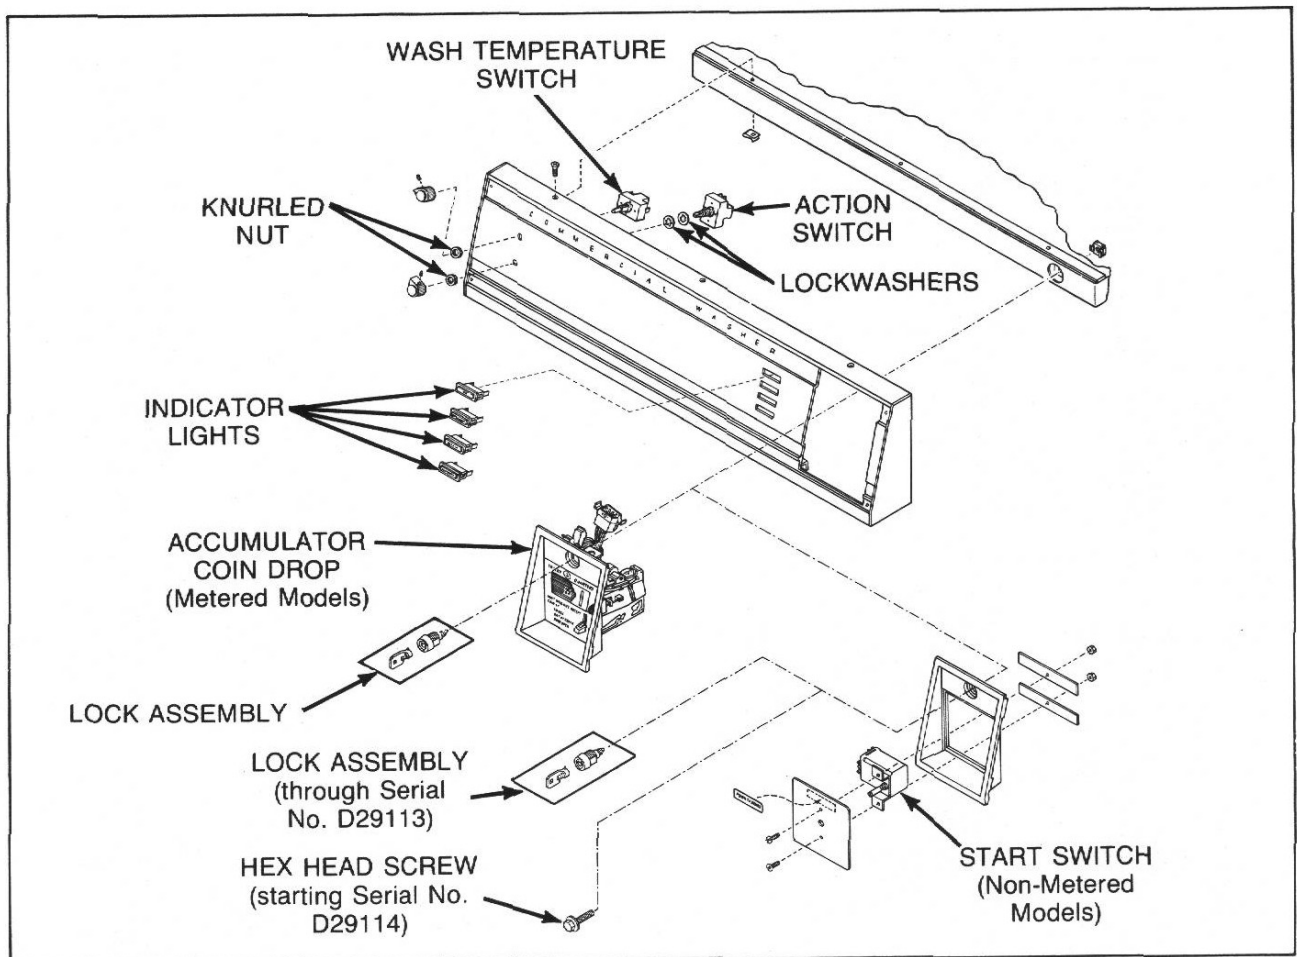

Figure 1
#### 1. ACCUMULATOR COIN DROP — Metered Models (Refer to Figure 1)
**2. START SWITCH — Nonmetered Models (Refer to Figure 1)**
**3. CONTROL PANEL ASSEMBLY (Refer to Figure 1)**
**4. INDICATOR LIGHTS (Refer to Figure 1)**
**5. SWITCH — Temperature or Action (Refer to Figure 1)**